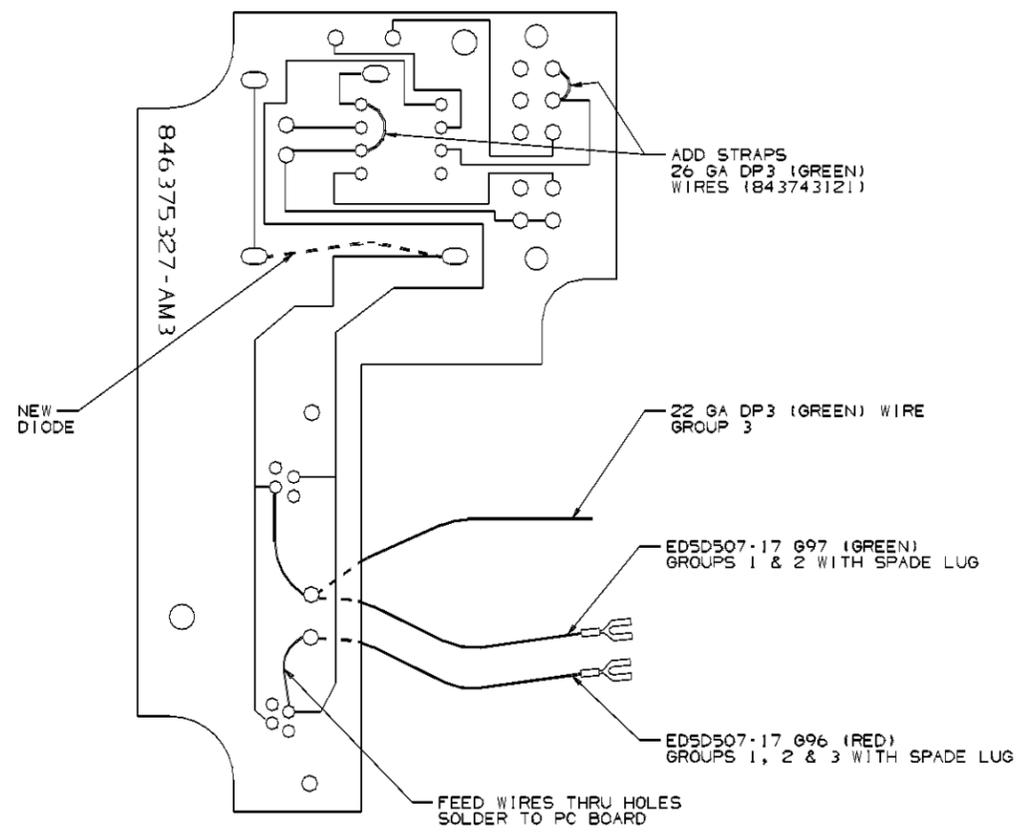

FIG. 1
- D. ADD TWO 26GA DP3 GREEN WIRES (843743121) AS SHOWN ON FIG 1.
- E. ADD ED5D507-17 G96 AND G97 16-INCH WIRE PAIR (22GA) RED AND GREEN AS INDICATED ON FIG 1, SOLDER TO BOARD (FOR GROUPS 1 AND 2).
- F. ADD ED5D507-17 G96 16-INCH WIRE (22GA) RED AND 22GA DP3, 16-INCHES LONG GREEN WIRE AS INDICATED IN FIG 1, SOLDER TO BOARD (FOR GROUP 3).